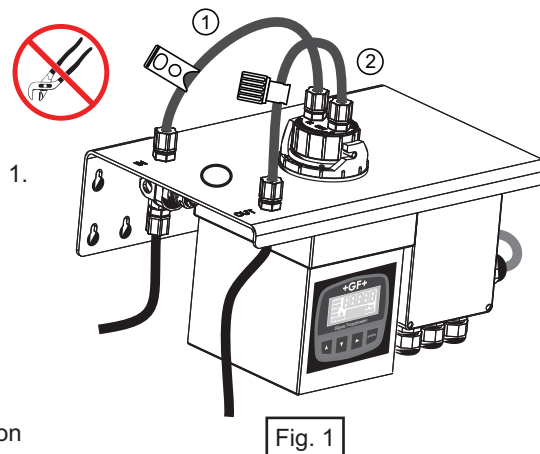

Fig. 1
1. Locate Tubing Kit 4150-0005 and install the tube kit with the shut off clamp (labeled "IN") to the nipple assembly marked "IN" on the Turbidimeter. See Fig. 1.
2. Install the tube kit with the small back pressure valve to the nipple assembly marked "OUT" on the top right front corner of the turbidimeter and to the measuring cell nipple marked "OUT". See Fig. 1.